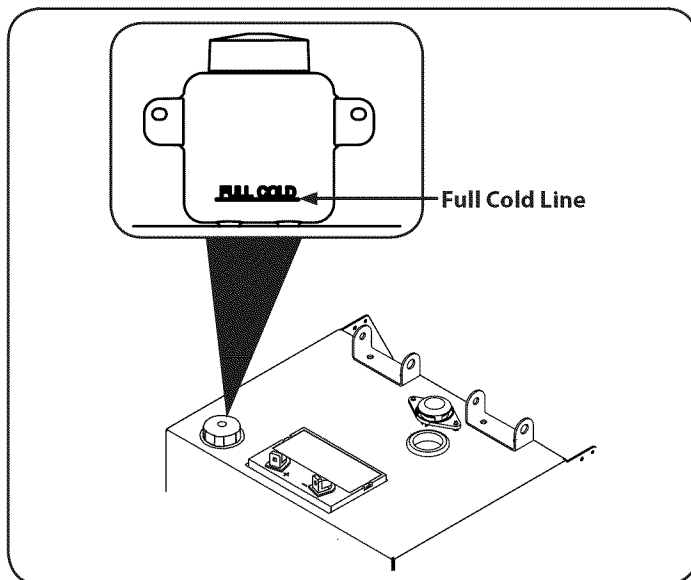

Figure 29
1. Pivot the operator's seat forward and clean the reservoir cap and the area around the cap to prevent debris from contaminating the transmission oil. See Figure 29.
2. Turn the reservoir cap counterclockwise to remove, then check the oil level in the reservoir. Oil should be visible at the bottom of the cup, but the oil level must **NOT** be above the "FULL COLD" line. See Figure 29. **DO NOT FILL THE RESERVOIR.**